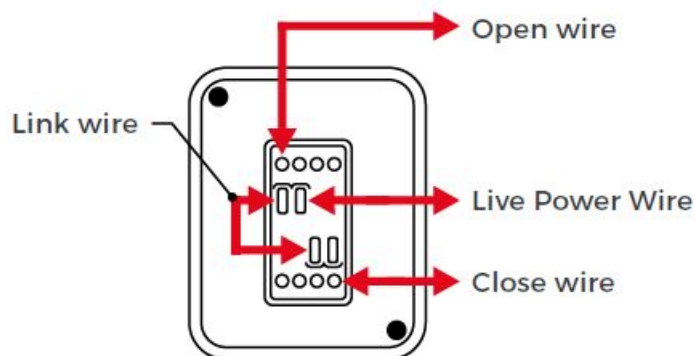

fig.7
5. Connect the Rocker Switch terminal wiring according to fig.7.
5. Rocker switch terminal wiring (fig.7);